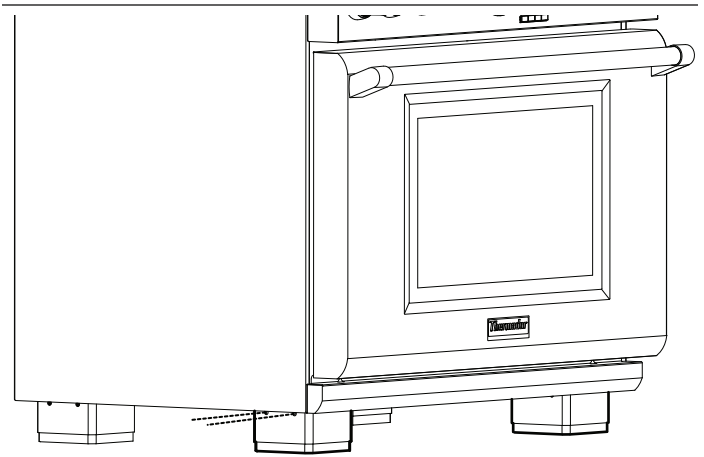

Figure 22: Leg Cover Mounting Holes
1. Remove the screws securing the leg covers (see *Figure 22: "Leg Cover Mounting Holes"*). Dismount the leg covers from the extruded dimples.
5. Mount the Toe Kick Panel on both sides of the unit into the extruded dimples using the (4) T-20 Torx drill point screws provided.